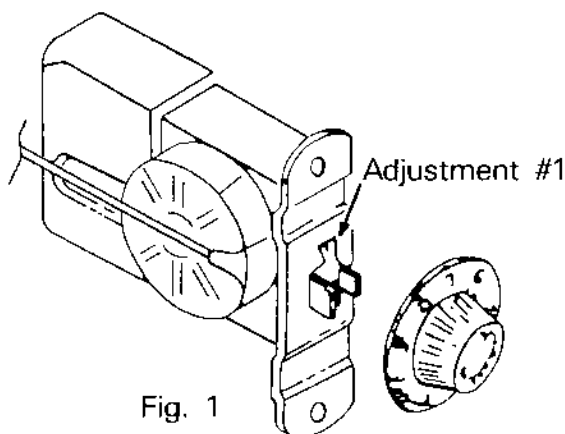

Fig. 1
(Outside Range). See Fig 1.
| (Fig. 1) | 7, 5, 3, 1, 2, 4, 6, 8
On the inside of the Control Panel, the select buttons and switches are numbered to assist in identifying them. If not numbered, then Push Button arrangement is as shown in (1) one of the foregoing diagrams, i.e., Fig. 1, 2, 3 or 4.
Figure 1 represents a control panel on which the select buttons are arranged in a vertical pattern of two rows and the power feed begins with the highest odd numbered switch to the lowest odd numbered switch, then to the lowest even numbered switch to the highest even numbered switch.
Although all circuit problems are not necessarily found to be one or more inoperative select switches, the examples listed below are typical of select switch problems found in the control panel. Refer to Fig. 1, page 41.